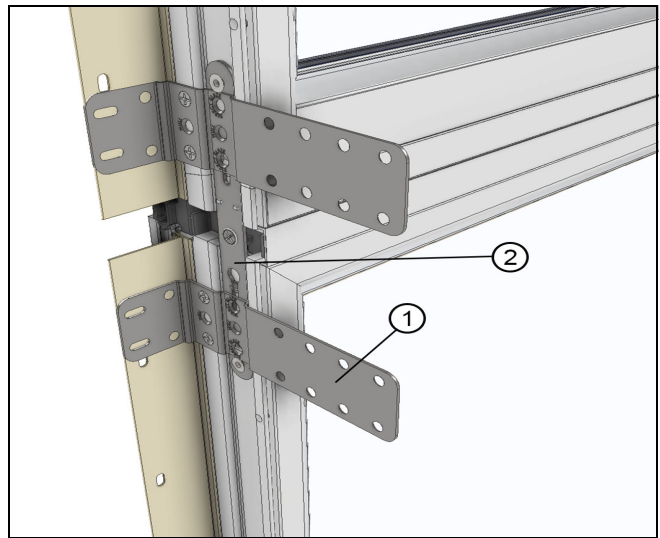

Figure 14
**6.** For installing a factory mulled unit, apply 90° bent structural brackets 1-1/8" from the mullion on both sides of all jamb and head jamb mullion joints. This applies to nail fin or structural bracket installation. See Figure 14. For sill mullion joints, slide flat sill structural brackets into sill T-slot and position one on either side of each mullion joint. If mulled assembly has nailing fin, remove the nailing fin at the sill prior to sliding brackets on. Cut sill nail fin at each mullion joint location and shorten the ends by 3"- 3-1/2" near each mullion to allow for the brackets. Slide brackets and nail fin pieces into the sill T-slot. See Figure 15.